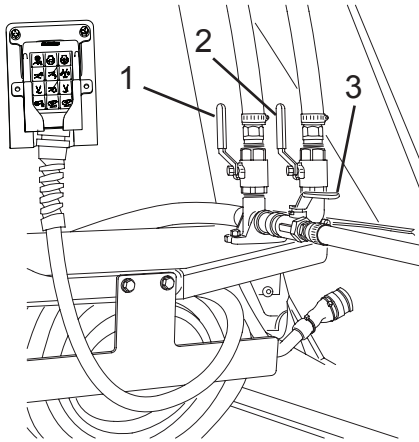

Figure 106
2. Open the upper wash-out valve (Figure 106, Item 1), “Add Water” valve (Figure 106, Item 2), or lower wash-out valve (Figure 106, Item 3) to activate the desired function.